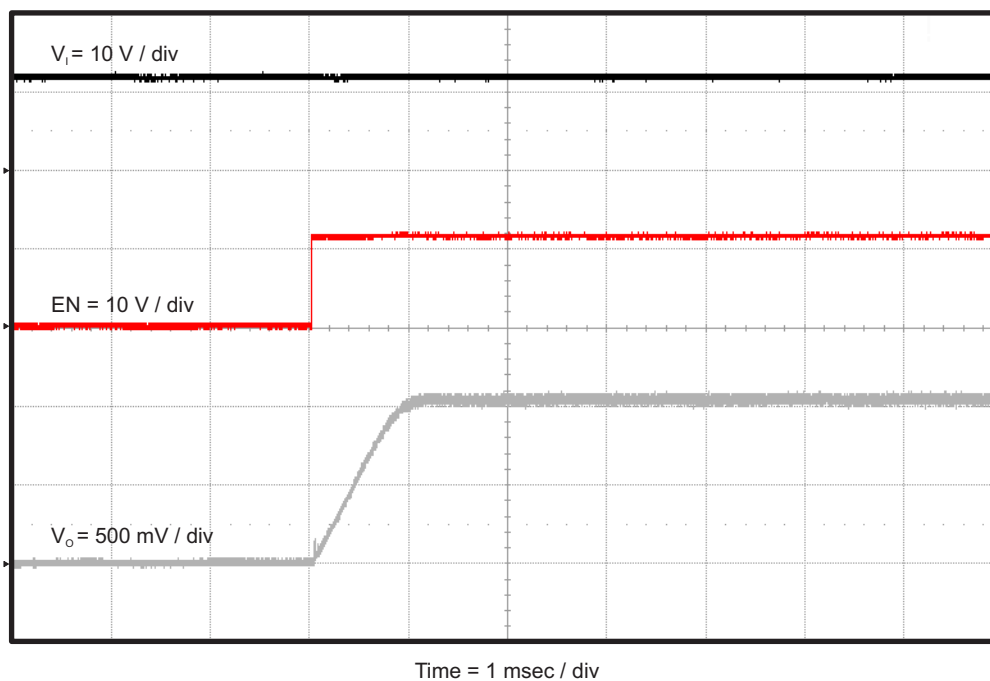

Figure 11. TPS563209EVM-652 Start-Up Relative to EN
The TPS563209EVM-652 start-up waveform relative to enable (EN) is shown in Figure 11. Load = 1 Ω resistive.